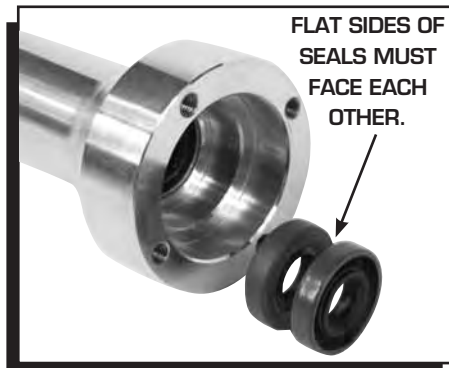

Figure 4 Installing New Seals.
8. Remove and replace the two seals in the housing. The new seals install with their flat sides facing each other. Lubricate the seals with grease (Figure 4).